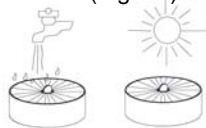

Fig. 27
- You can wash the HEPA filter by running it under the tap allowing the water to run on the dirty side (the top). (Fig. 27) Always allow 24 hours for air drying before replacing into the vacuum. (Fig. 27)